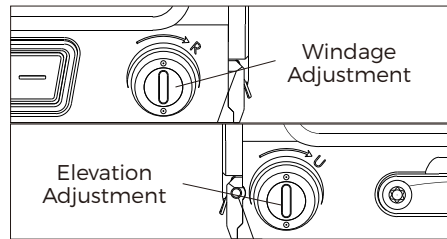

Fig 7
2. The elevation adjustment is located on the right side of the housing and the windage adjustment is located on the left side of the housing. Windage and Elevation adjustments can be made using the included tool. (see Fig 7).